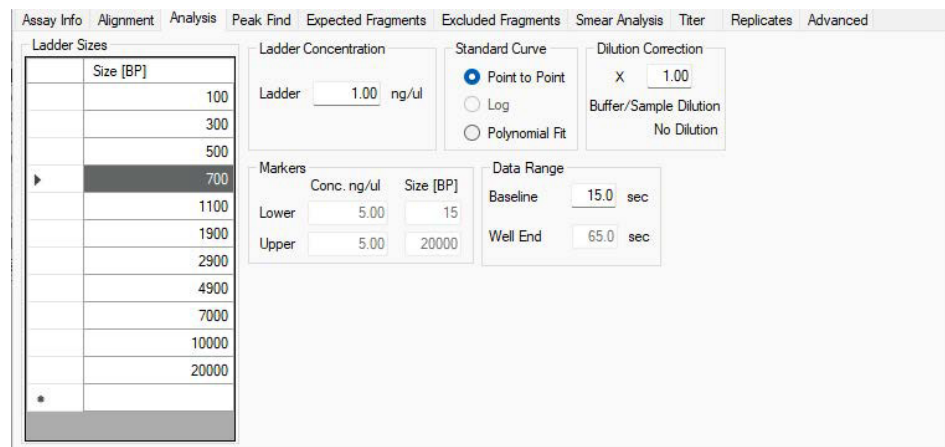

Figure 40. Default Ladder Settings
- 4 Click the **Apply** button to save the default ladder settings. The Analysis Tab displays the ladder data in the Default Ladder table and the Markers table (see Figure 40).